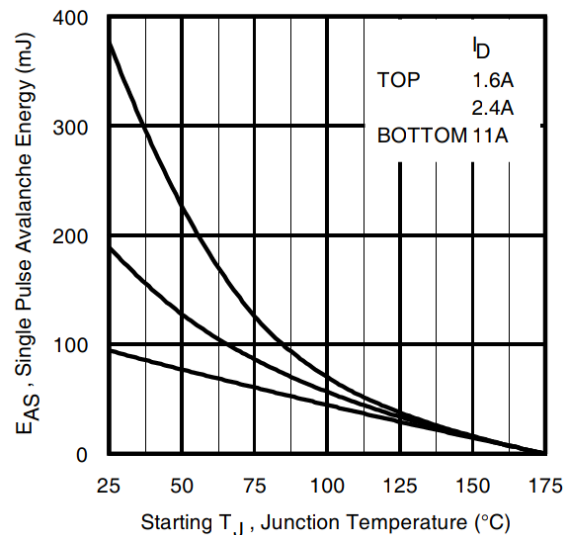

Fig 13. Maximum Avalanche Energy Vs. Drain Current
7. ΔT = Allowable rise in junction temperature, not to exceed T_{Jmax} (assumed as 25°C in Figure 13, 14).
$Z_{thJC}(D, t_{av})$ = Transient thermal resistance, see Figures 13)